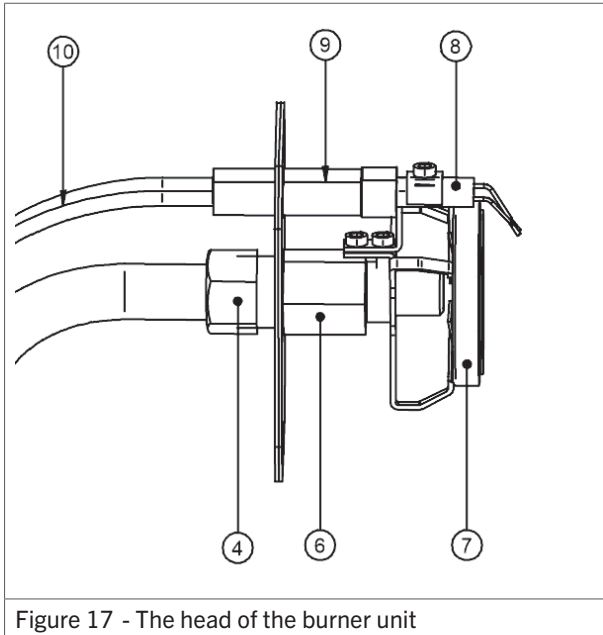

Figure 17 - The head of the burner unit
To change the gas type of the heater, the gas injector has to be changed (figure 17 - 6).
2. Remove the gas pipe by unscrewing the compression fitting (figure 17 - 4).
3. Remove the two connecting boots (figure 17 - 9) from the ignition electrode by gently pulling at the cables.
- a. Remove the stabilizer (figure 17 - 7) from the injector (figure 17 - 6).